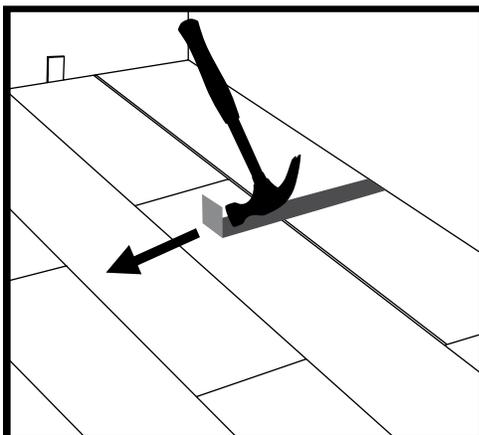

Figure 7
- Always use a pull bar on the cut edge of the plank. Factory edges can be damaged if the pull bar is used directly against them. (See figure 7.)